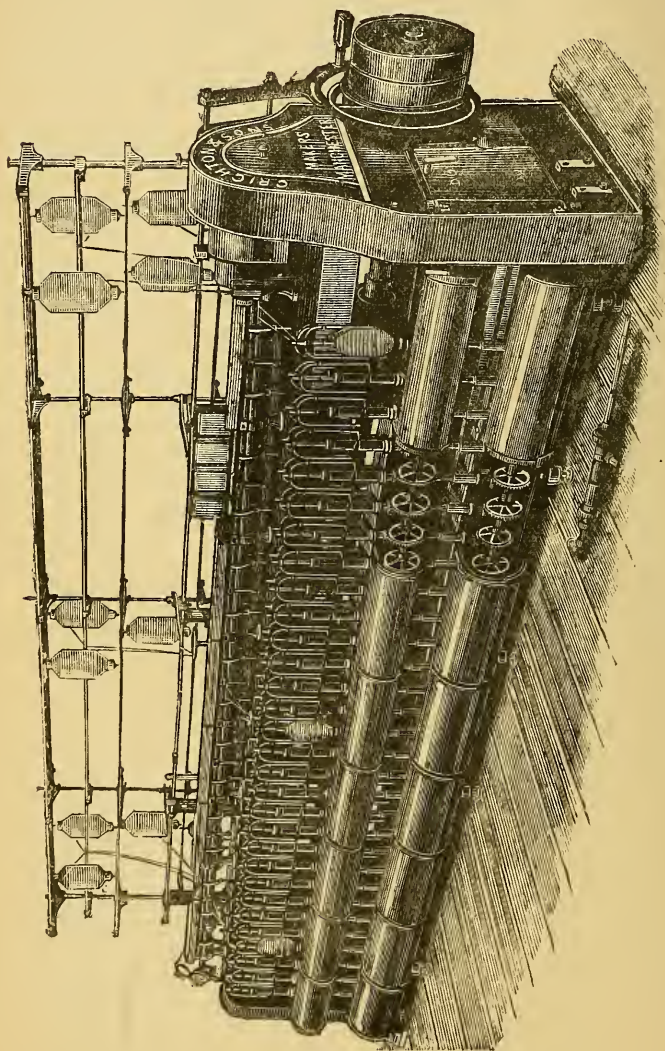

Fig. 18.—Roving Frame.
**The Roving Frame.**—We give a description of a roving frame (shown in Figs. 18 and 19), which is certainly worthy of attention.